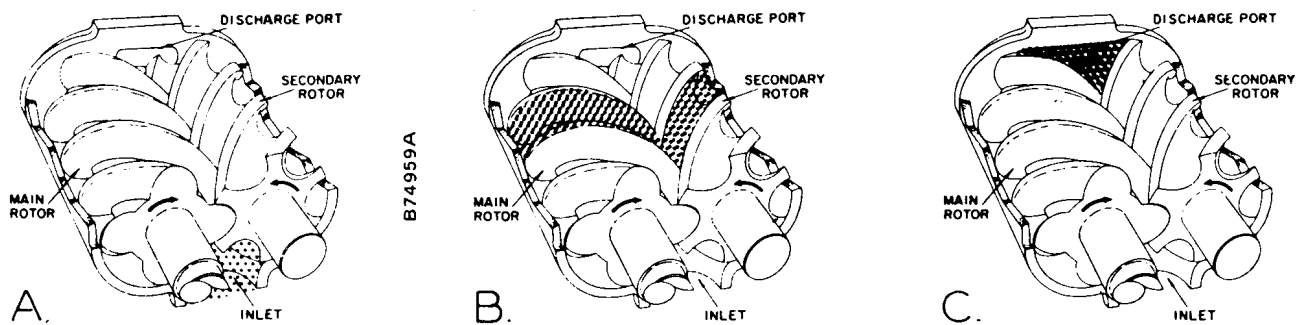

FIGURE 1-1 – COMPRESSION CYCLE
**COMPRESSOR** – The Gardner Denver Electra-Saver® compressor is a single stage, positive displacement rotary machine using meshing helical rotors to effect compression. The input drive shaft and helical drive gear are supported in the gear case by high capacity tapered roller bearings. The drive gear meshes with a driven gear mounted on the main rotor shaft to drive the rotors. Both rotors are supported between large capacity anti-friction bearings located outside the compression chamber. Single width cylindrical roller bearings are used at the inlet end of the rotors. Early models used two (2) heavy-duty, single-row, angular contact ball bearings at the discharge end to locate each rotor axially and carry all thrust loads; later models use tapered roller bearings in this location.
**COMPRESSION PRINCIPLE** (FIGURE 1-1) – Compression is accomplished by the main and secondary rotors synchronously meshing in a one-piece cylinder. The main rotor has four (4) helical lobes 90° apart. The secondary rotor has five (5) matching helical grooves 72° apart to allow meshing with main rotor lobes.
The air inlet port is located on top of the compressor near the center. The discharge port is near the bottom at the opposite end of the compressor cylinder. *Figure 1-1 is an inverted view to show inlet and discharge ports.* The compression cycle begins as rotors unmesh at the inlet port and air is drawn into the cavity between the main rotor lobes and secondary rotor grooves (A). When the rotors pass the inlet port cutoff, air is trapped in the interlobe cavity and flows axially with the meshing rotors (B). As meshing continues, more of the main rotor lobe enters the secondary rotor groove, normal volume is reduced and pressure increases.